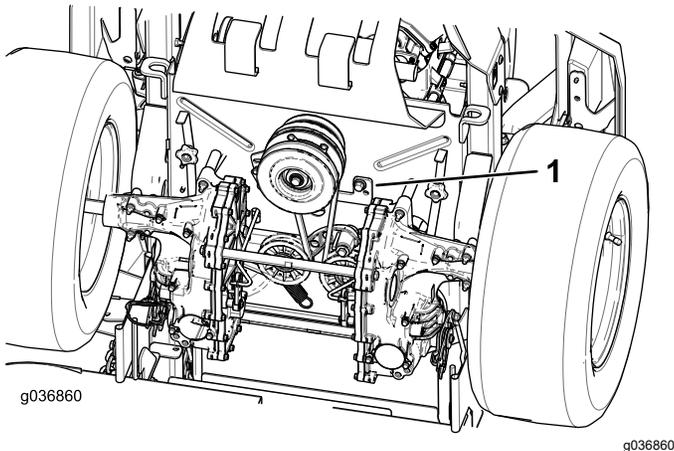

Figure 77
5. Remove the clutch stop (Figure 77).
9. Install the clutch stop (Figure 77).